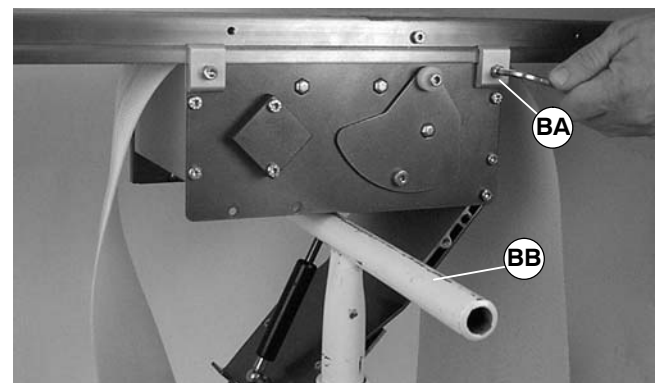

Figure 30
Before loosening clamps (BA of Figure 30), provide a support (BB) under center drive module.
1. Loosen clamp screw (BA of Figure 30) in each corner of module.
5. Install center drive module onto conveyor and secure with clamp and clamp screw (BA of Figure 30) in each corner. Tighten screws to 80 in-lb (9 Nm).